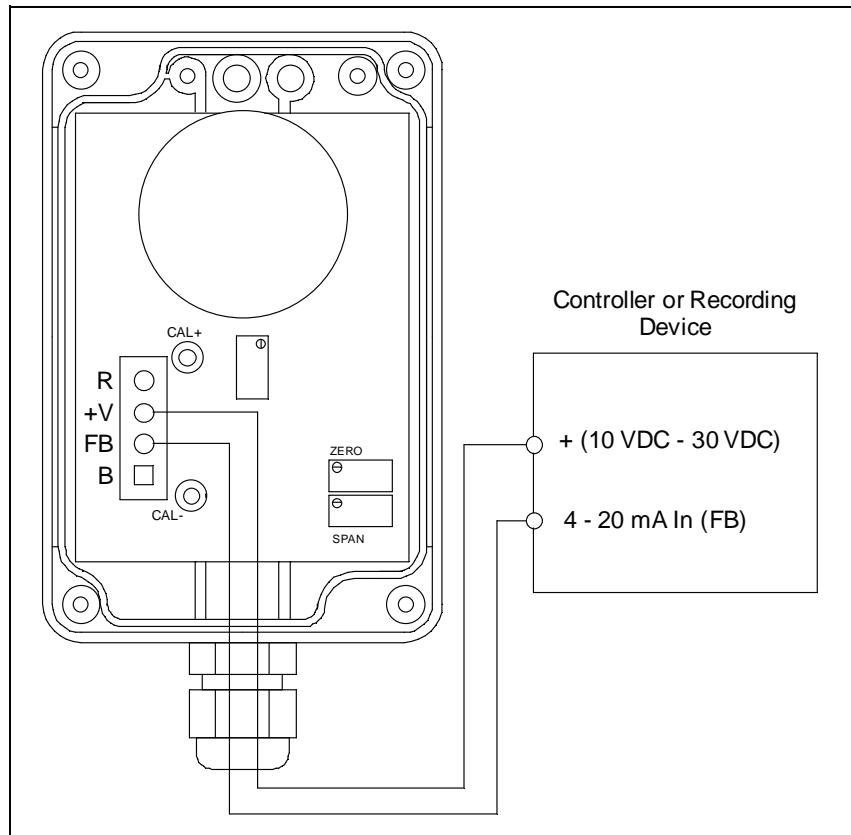

Figure 3: Wiring the H₂S Transmitter to a Controller
5. Connect the two wires to the interconnect terminal strip as follows (see Figure 3).
8. Connect the wires to the applicable controller transmitter terminal strip as shown in Figure 3 below.
10. Reconnect the wiring from the controller to the interconnect terminal strip as shown in Table 2 and Figure 3.